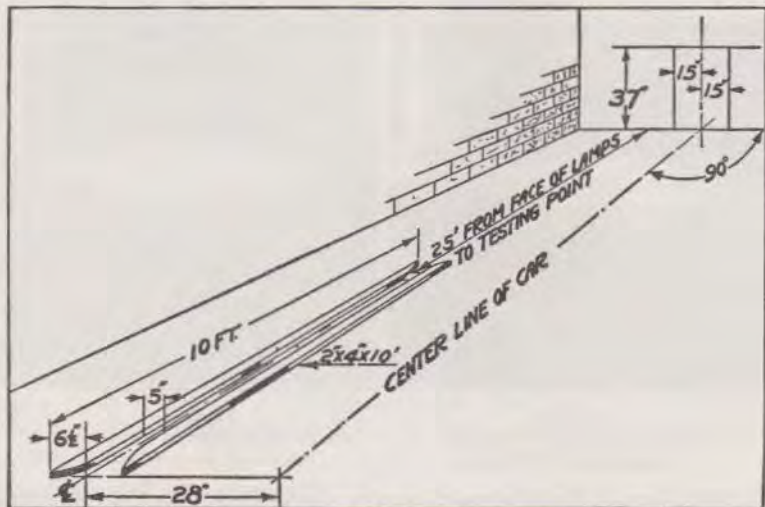

Figure 20
Align and focus headlamps with empty car standing on a level surface in front of a white wall or screen 25 feet from front of headlamps. This wall must be in semi-darkness or sufficiently shielded from direct light so that the light spots from the headlamps can be clearly seen. The wall must be marked off with black lines as shown in Figs. 18 and 19. Details for making the layout are shown in Fig. 20.
2. The tops of the bright spots on the 25-foot wall are to be set at a line 37 inches above level of surface on which car stands. (See Fig. 20.) With tops of bright spots thus set for empty car, the headlamps comply, under all conditions of loading, with the requirements of the various states.